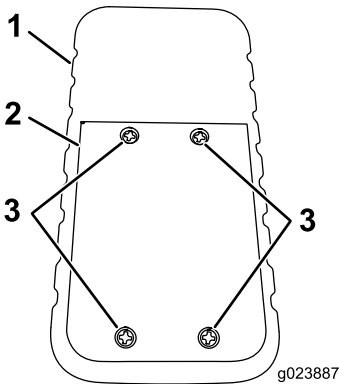

Figure 55
1. Loosen the 4 screws securing the battery cover (Figure 55).